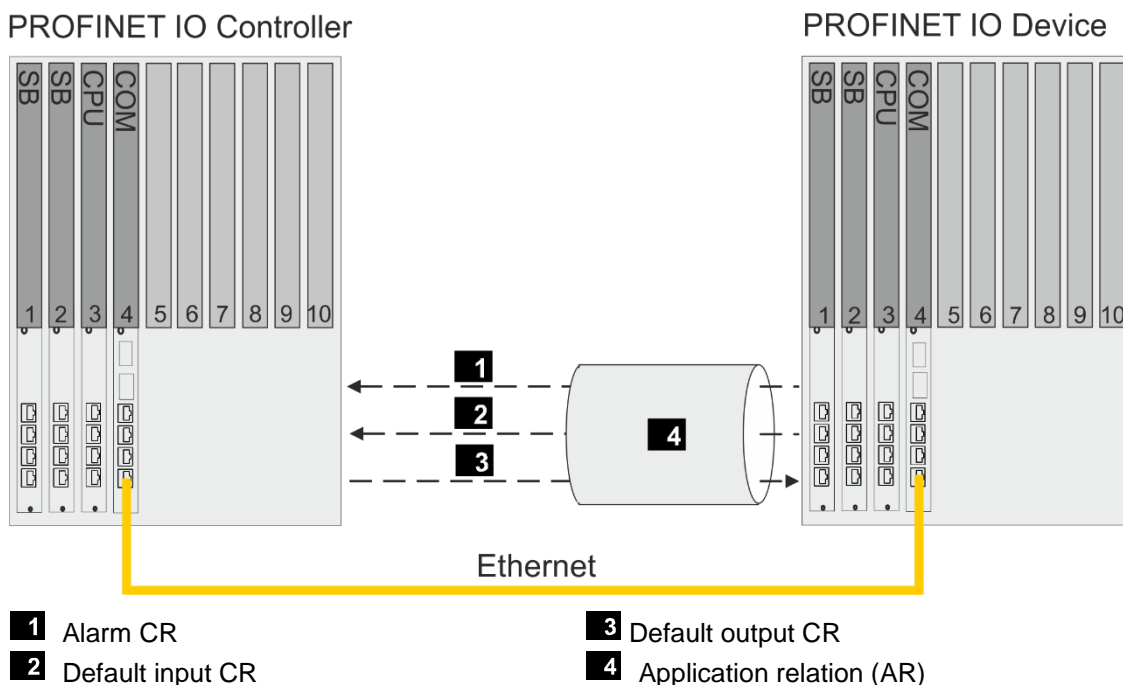

Figure 8: Communication via PROFINET IO/PROFIsafe
An application relation (AR) is a logic construct for enabling data exchange between controller and device. In the following example (see Figure 8), data is transferred within the application relation via standard communication relations (CR): alarm CR, default input CR and default output CR. These communication relations are already configured by default in the input and output modules.